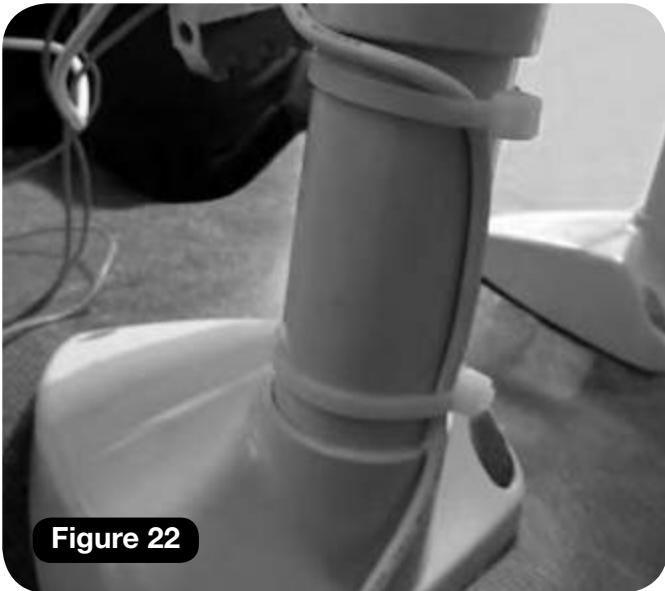

Figure 22
- h** Using two cable ties, securely fasten the power supply cable to the back of the stanchion as shown in **(Figure 22)**